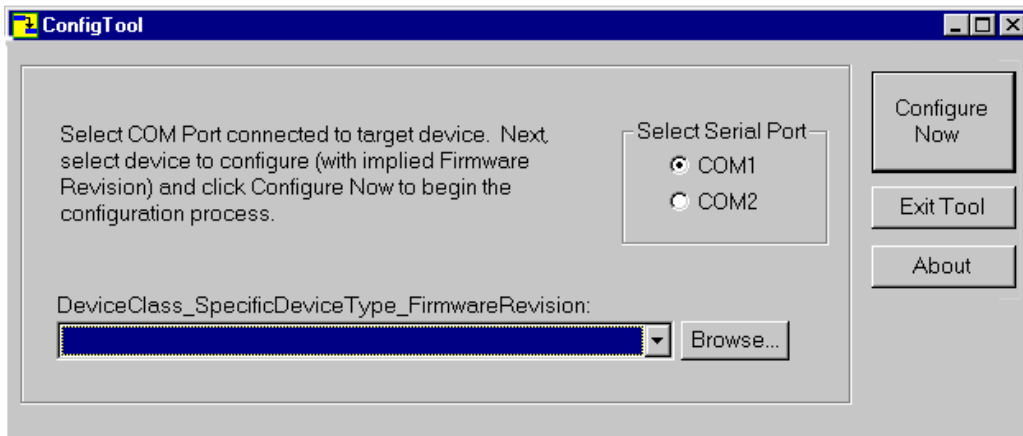
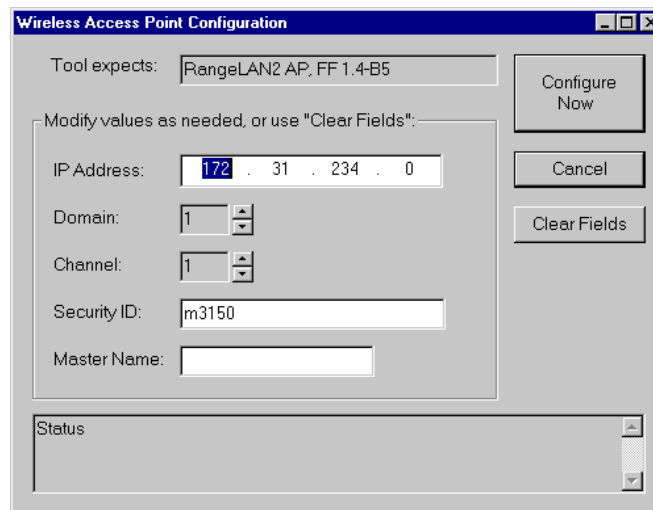

Figure 4-5 Configuration Tool Window
Figure 4-9 Access Point Configuration Window
- click **OK** to open the **Configuration Tool** window of Figure 4-5.
Step 10. Select the appropriate Device to Configure in the drop down list in the **Configuration Tool** window of the configuring PC. See Figure 4-5.
Step 3. Click **Configure Now** in the Configuration Tool window of Figure 4-5 on the configuring PC to open the **LAN Switch Configuration** window of Figure 4-6.
Step 3. Click **Configure Now** in the Configuration Tool window of Figure 4-5 on the configuring PC to open the **Access Point Configuration** window of Figure 4-9.
Note The **Configuration Tool** retains the parameter values entered when it was previously run. For each subsequent Access Point configured, enter the parameters for that Access Point in the Access Point Configuration window of Figure 4-9.
Step 5. Select the **WB_WirelessM3_1-2b15.cfg** item in the drop down list in the **Configuration Tool** window of Figure 4-5.